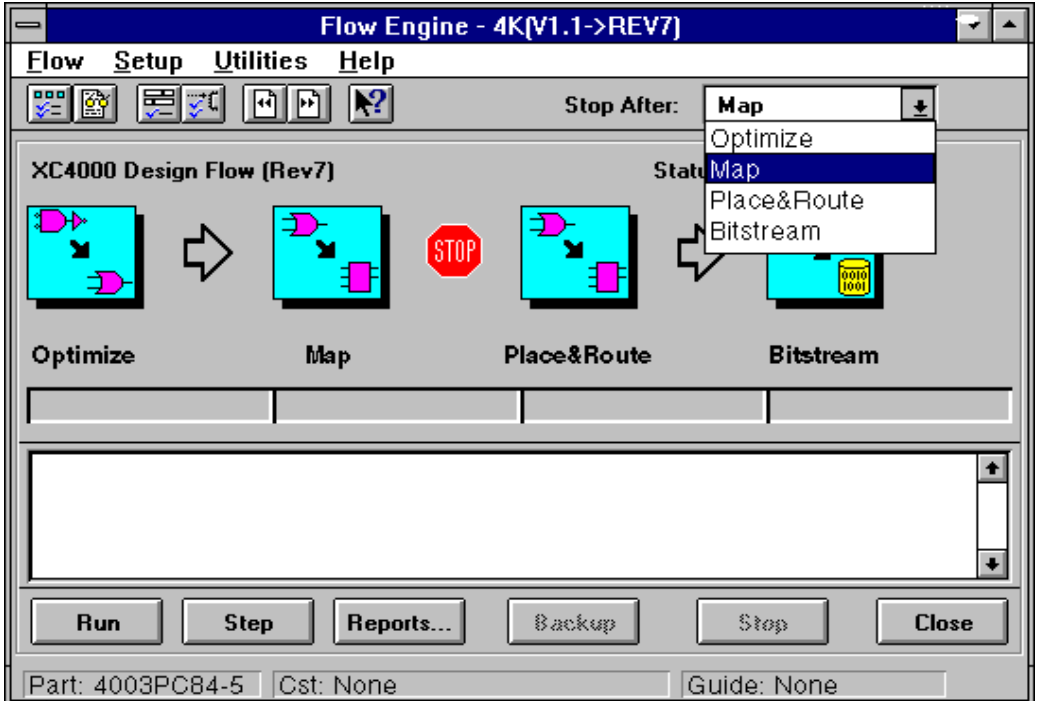

Figure 3-16 Flow Engine Window with a Run Target
1. Select the desired Run target in the Stop After popup menu on the right side of the Flow Engine tool bar (see Figure 3-16).